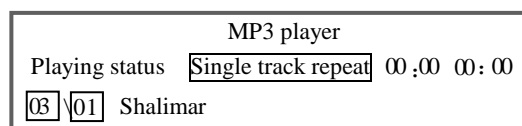

Fig. 3 MP3 Player Interface
3. Press the "MP3" key to enter the operation interface in MP3 playing mode in any level of menu operational interface, as shown in figure 3: